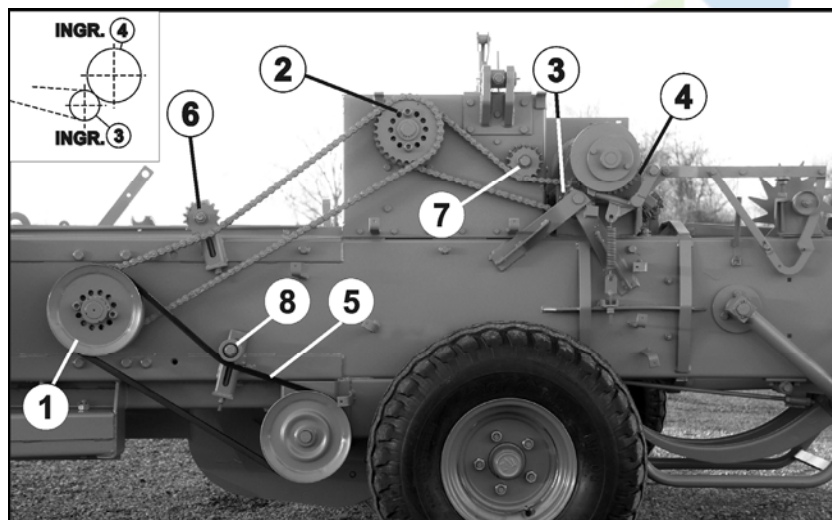

Fig. 12
N.B. In case it is necessary to disassemble the whole binding unit, it is necessary to reassemble the binding unit prior to carry out phasing, observing the meshing between gear 3 and 4 as shown on Fig. 12 (the O marked on gear 4 must be between both O marked on gear 3).